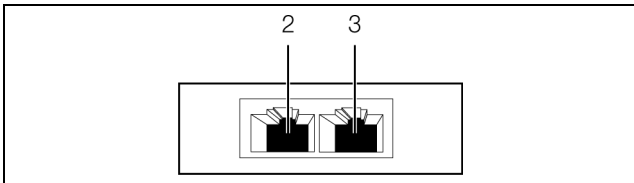

Fig. 10: Rear of the temperature/humidity sensor
- If necessary, connect another component (e.g. another sensor type) to the second, free CAN bus interface of the temperature/humidity sensor (fig. 10, item 3).